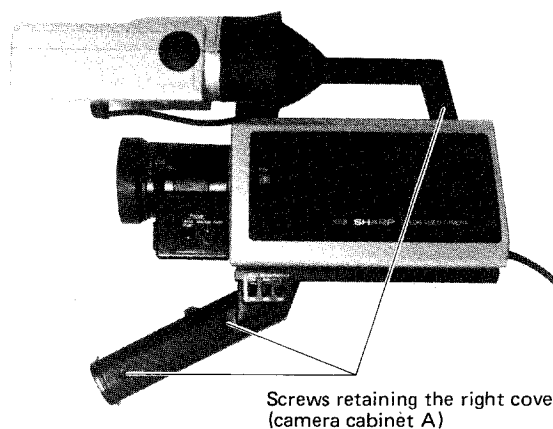

Figure 30.
3. Remove five screws from the cabinet A—three (XUASB30P12000) at the side and two (XBSSB30P06000) at the bottom, and take off the cabinet A. (See Fig. 30, 31)